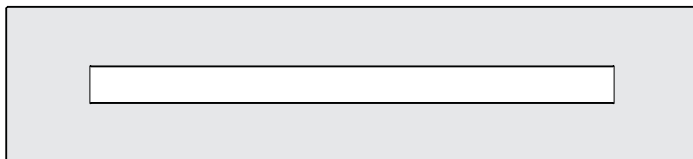

Figure 4
1. Apply the crushed glass to the shaded area only. **See Figure 4.** Use enough to cover the floor of the fireplace, but do not allow the media to reach higher than the flange surrounding the burner. Never place decorative media inside the glass panel surrounding the burner itself.